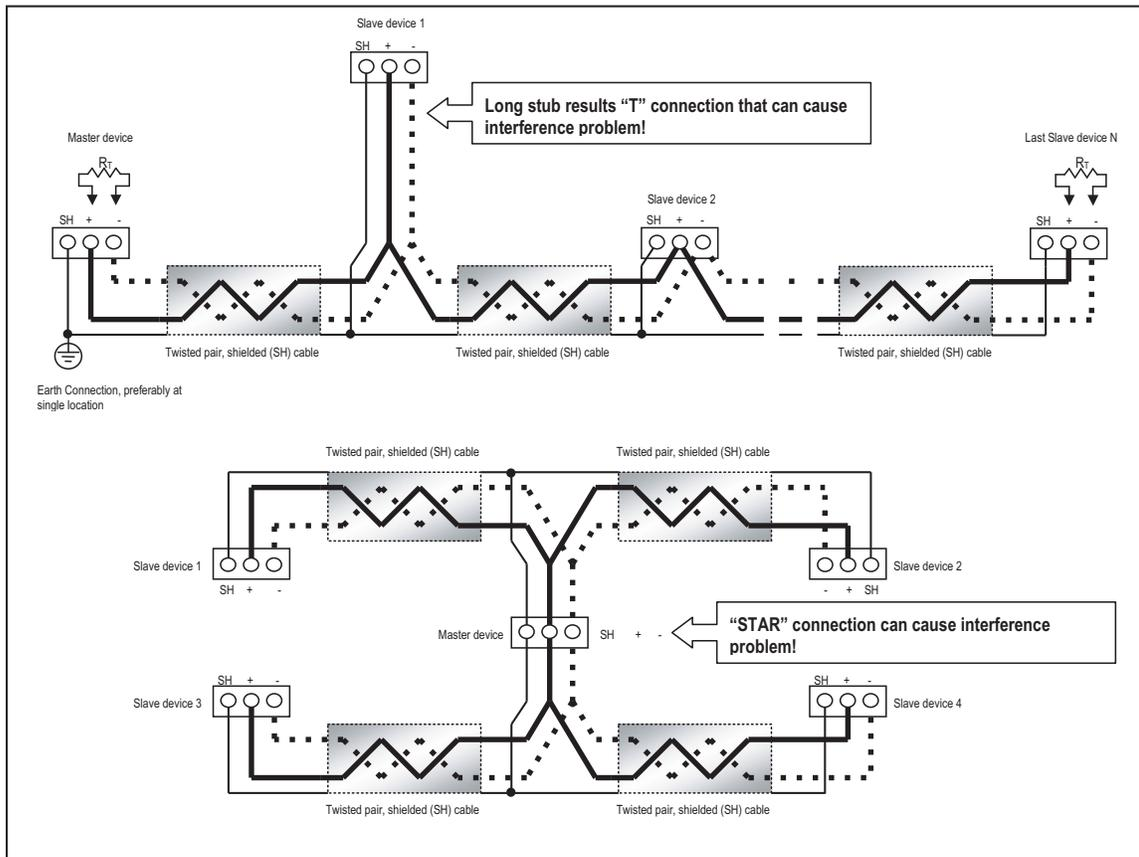

Figure 5-6: Incorrect "T" and "Star" Topologies
- Avoid both “Star” and “Tee” connections (see Figure 5.6).